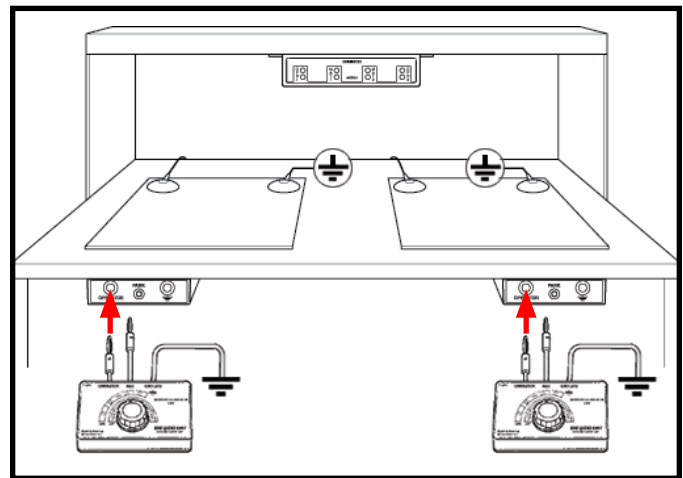

Figure 4. Connecting the OPERATOR test lead from the Monitor Calibration Unit to the satellite remote
Step 2: Insert the Calibration Unit’s banana plug labeled “OPERATOR” into the jack labeled “OPERATOR” on the satellite remote (see Figure 4).